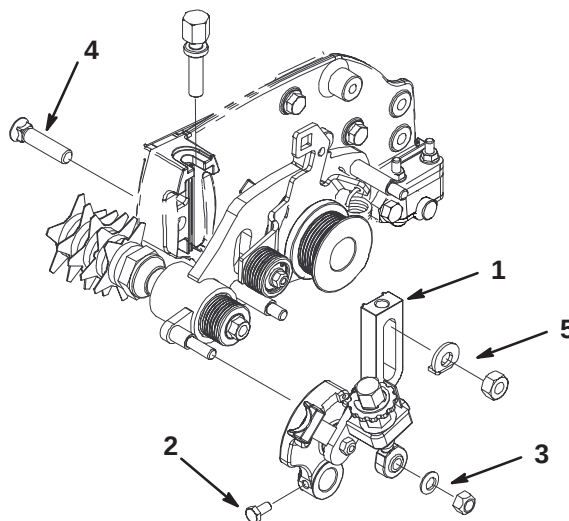

Figure 3
3. Remove bolt securing left adjuster arm to roller shaft (Fig. 3).
4. Remove locknut and Belleville washer securing adjuster arm assembly rod end to groomer drive assembly pin (Fig. 3).
5. Remove carriage bolt, washer and nut, securing adjuster arm assembly to side plate (Fig. 3).